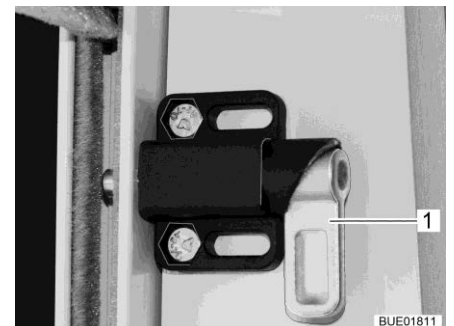

Fig. 21 Securing latch
- Turn the securing latch (Fig. 21,1) downwards on both sides.